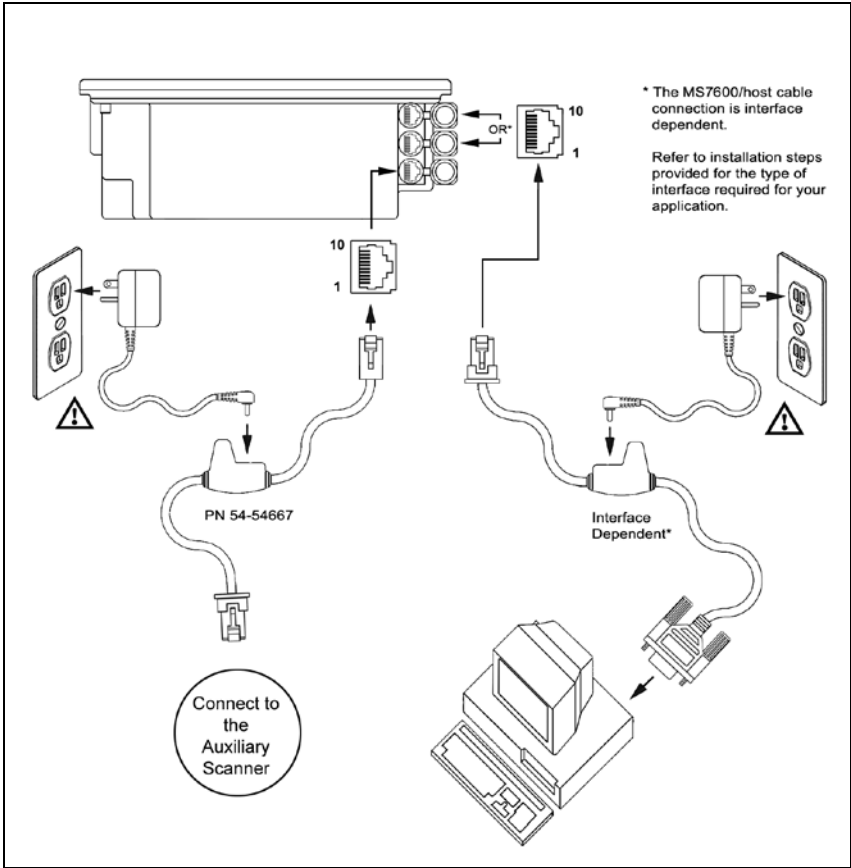

Figure 23: Secondary Scanner Setup
2. Connect the **round** end of the PowerLink RS232 AUX cable [PN 54-54667A] to the RS232 jack of the **secondary** scanner (see Figure 23).